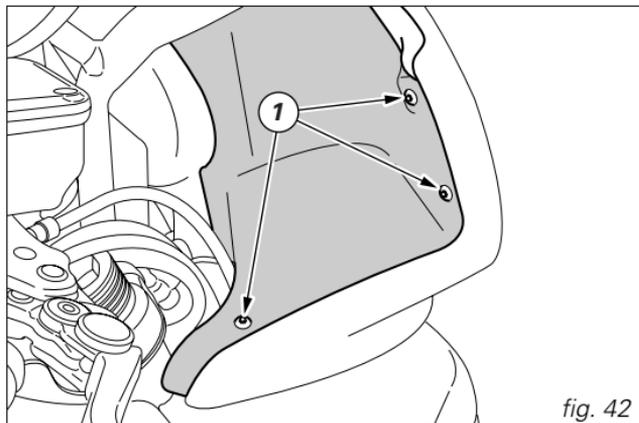

fig. 42
Undo the six screws (1) securing the inner flange, on either side of the headlight fairing, then pull the inner flange upward and remove it (fig. 42).